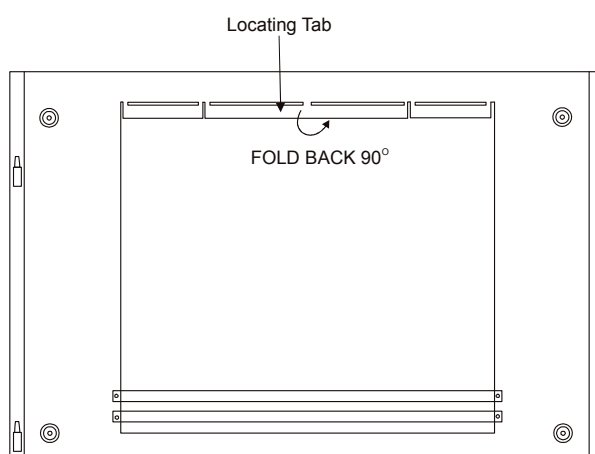

Figure 62
4. Referring to **Figure 62** fold the centre tab backwards.